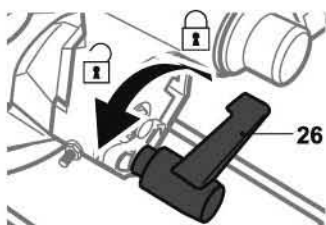

Fig. 49
1. Push the handle (1) downwards and release the locking bolt (23) from the locking position (Fig. 49, 50).